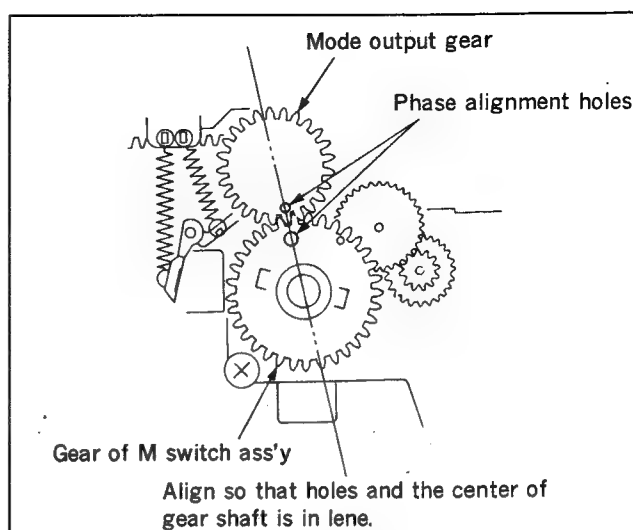

Fig. 4-23-5 Gear phase alignment
2) Rotate gear of M switch ass'y until the locating hole comes in line connecting the center of gear shaft and phase alignment holes. Install it on the shaft, as shown in Fig.4-23-5.